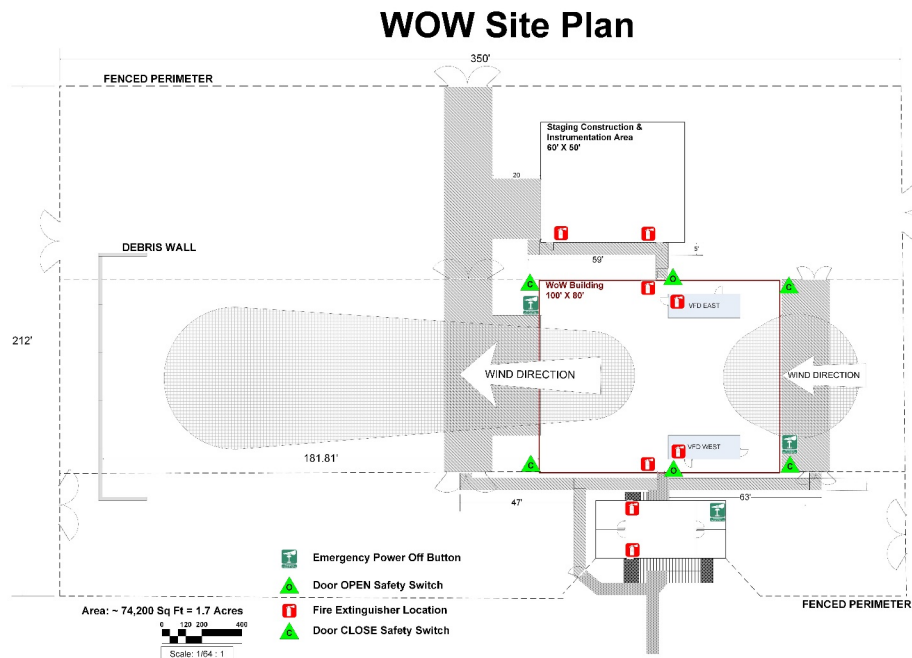

Figure 1: WOW Site Plan
Figure 1 shows the WOW site plan and the location of safety devices.
- Turn on VFD East and West. (Refer to Figure 1).
- Turn off VFD East and West. (Refer to Figure 1).